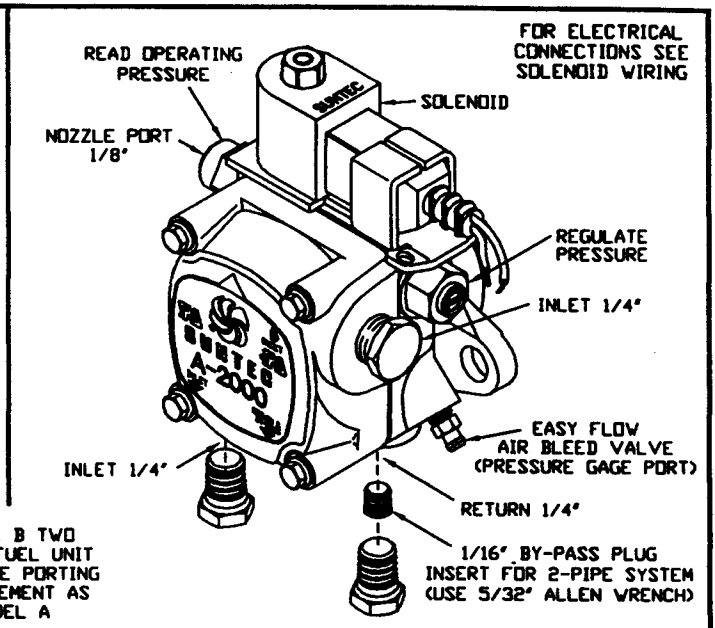

FIGURE 2
**PRESSURE CHECK** If a pressure check is made use GAGE PORT OR NOZZLE PORT. **DO NOT USE EASY FLOW BLEED VALVE PORT FOR THE 7000 SERIES.** The Easy Flow Bleed Valve Port contains pressure higher than operating pressure. Setting pump pressure with gage in the Easy Flow Bleed Valve Port results in **WRONG** operating pressure. The 2000 series and 7400 series are exceptions (See Figure 2).